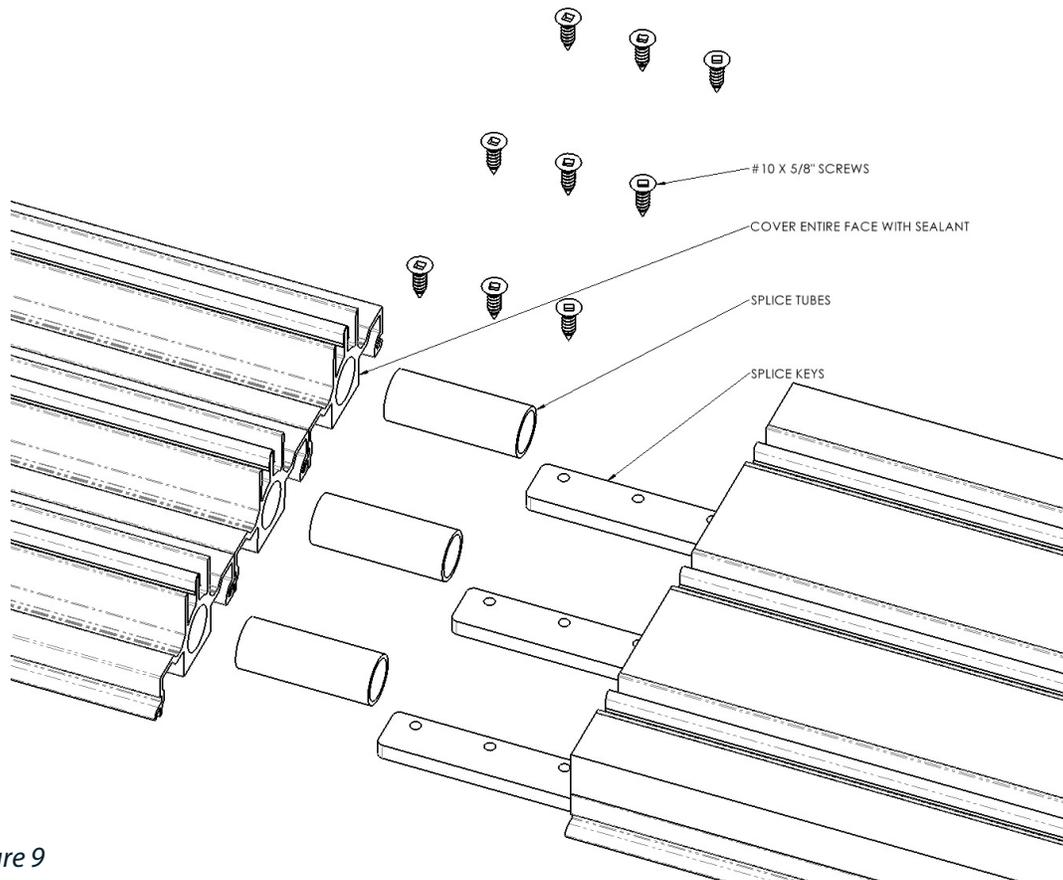

Figure 9
- For all sill types longer than 238" will have a splice. At each sill splice push a splice tube into each track on the sill side with the factory installed splice keys and cover both side of the joining face with a layer of sealant. Push the two joining faces together. Guide the splice tubes into each track. Use #10 x 5/8" screws to affix the splice keys at each track. (See Figure 9).